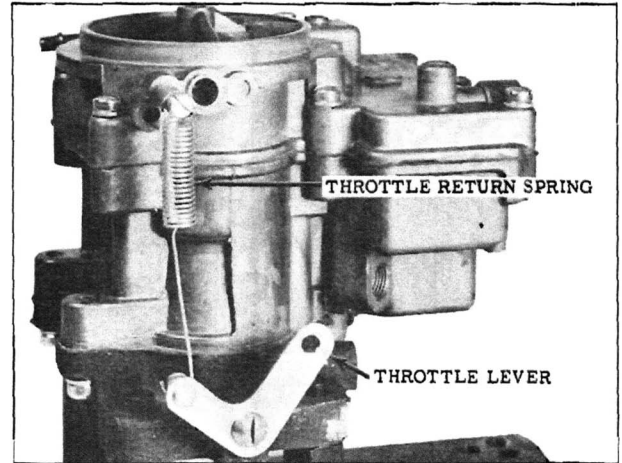

Fig. 38 Throttle Return Spring
8. (Front and Rear Only). Install throttle return springs to throttle lever and post on air horn. (See Fig. 38)